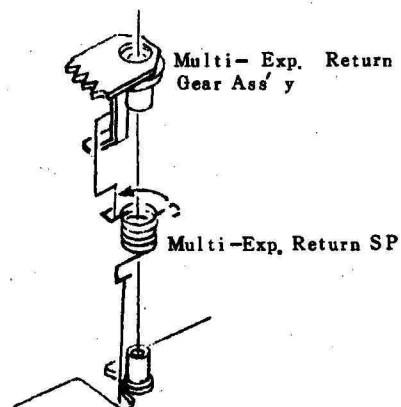

Fig. 93
- Hook up the Multi-Exp. Return Gear Spring as in Fig. 93 so that the Multi-Exp. Return Gear Ass'y operates smoothly.